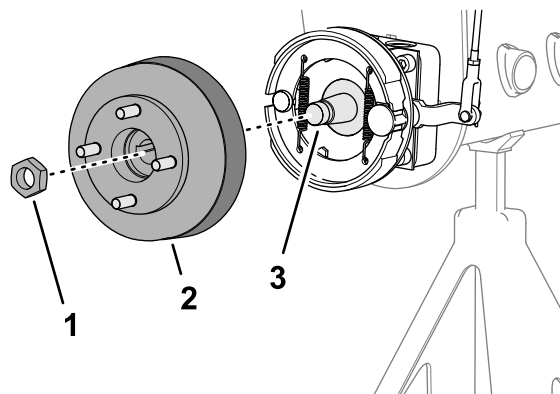
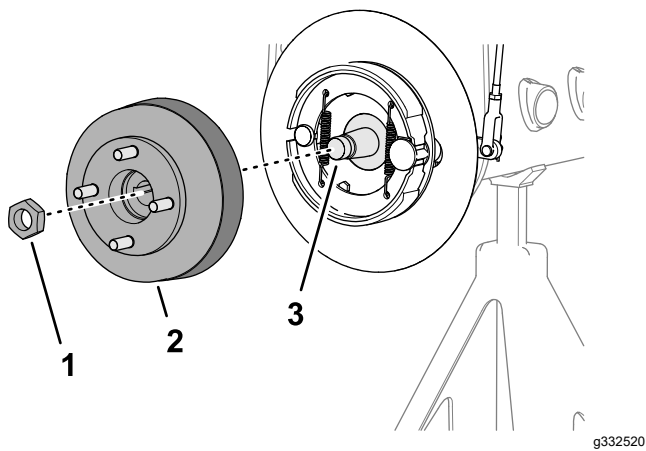

Figure 70
Figure 71
3. Assemble the wheel hub and brake drum onto the wheel-motor shaft (Figure 70 or Figure 71).
4. Secure the wheel hub to the shaft with the locknut (Figure 70 or Figure 71), and tighten by hand.